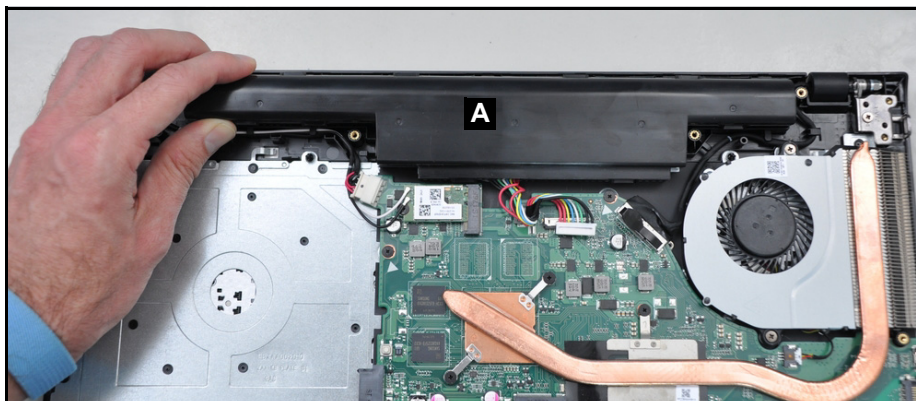

Figure 3-24. Battery Pack Removal
3. Remove the battery pack (A) from the system (Figure 3-24).